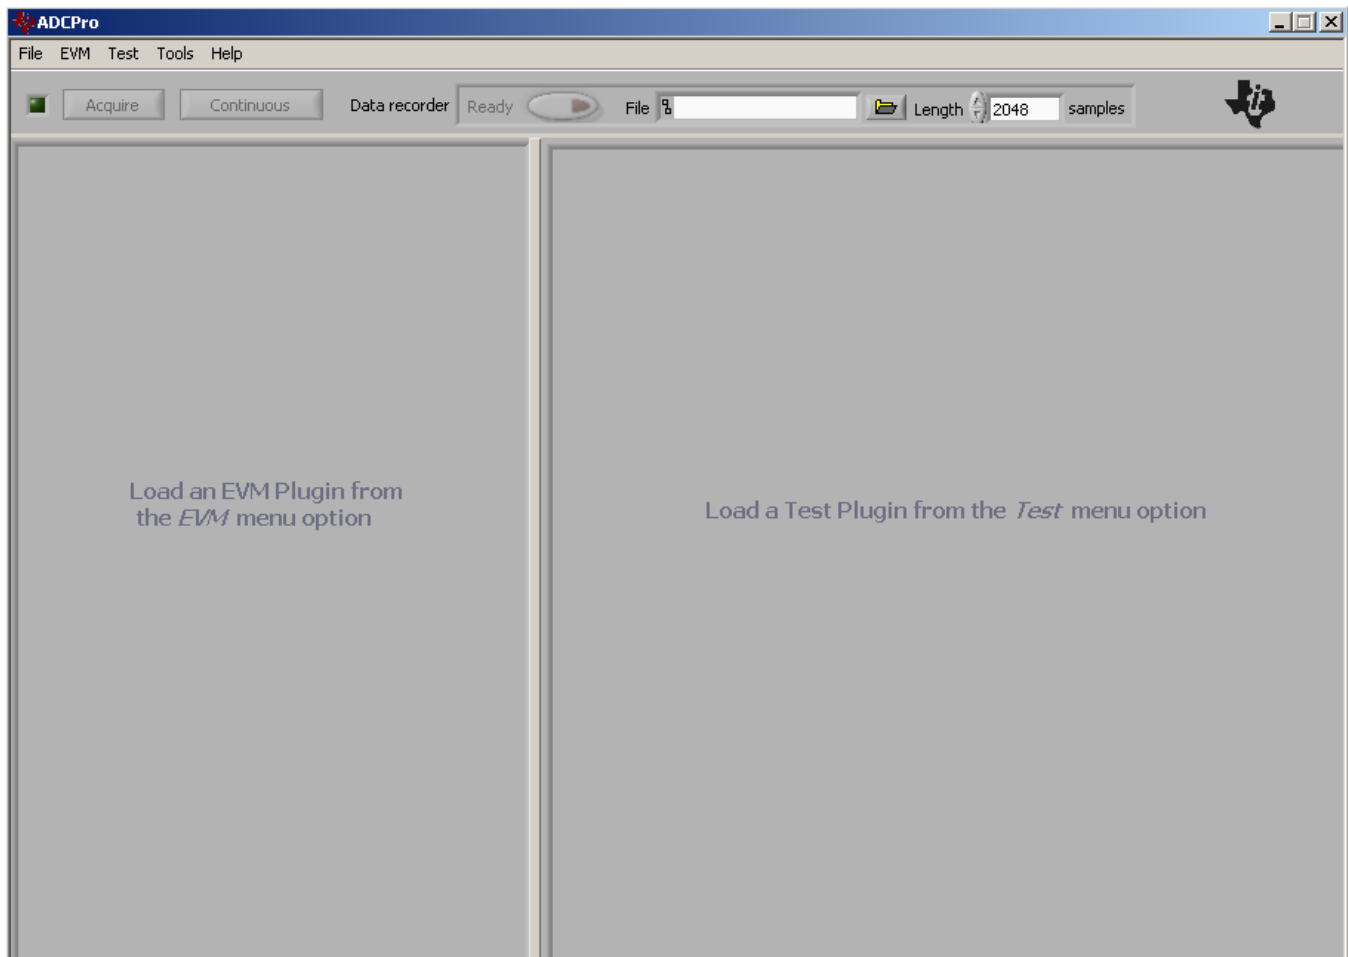

**Figure 10. NI-VISA Driver Verification Using Device Manager**
2. The computer should recognize new hardware and begin installing the drivers for the hardware. Figure 6 through Figure 10 are provided for reference to show the installation steps.
This procedure should complete the installation of the NI-VISA drivers. Verify the proper installation by opening the Device Manager and locating as shown in Figure 10.